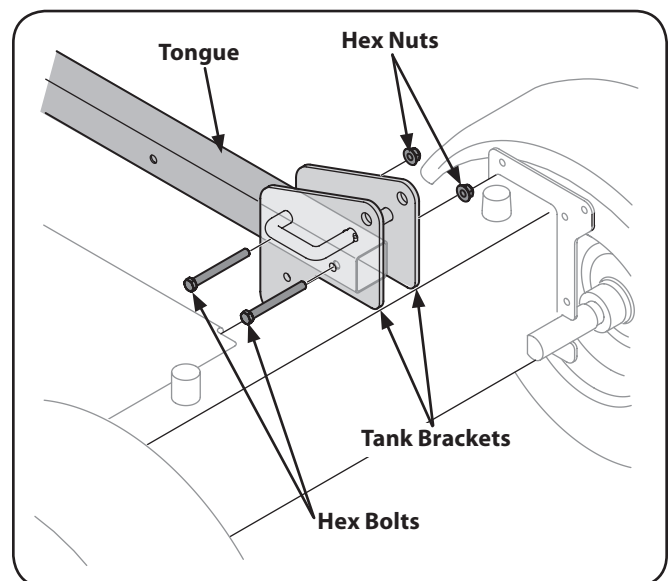

Figure 3-2
9. With the log splitter still secured to the bottom of the crate, remove two hex bolts and hex nuts from the tank bracket and remove the piece of wood inside the tank brackets. See Figure 3-2.
10. Align the holes in the tongue with the holes in the tank bracket and secure with the hardware just removed. See Figure 3-2.